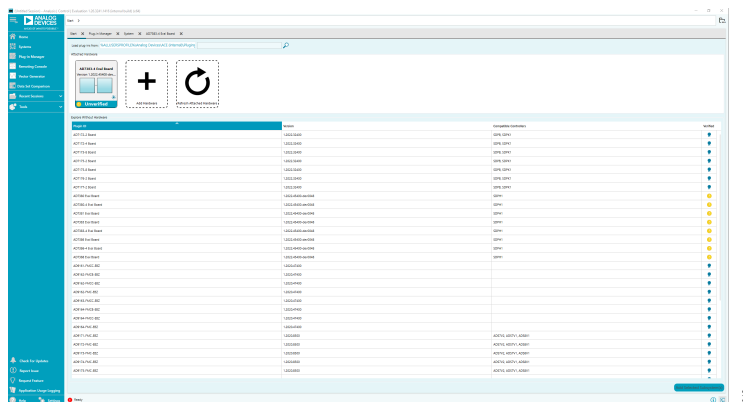

Figure 12. ACE Software Main Window
1. From the **Start** menu, select **All Programs > Analog Devices > ACE > ACE.exe**, which brings up the window shown in Figure 12.